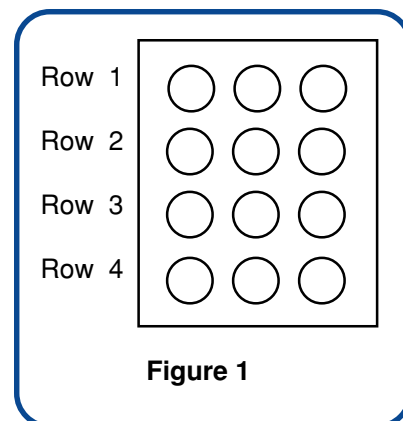

Figure 1
- Place the microtiter plate vertically as shown in Figure 1.